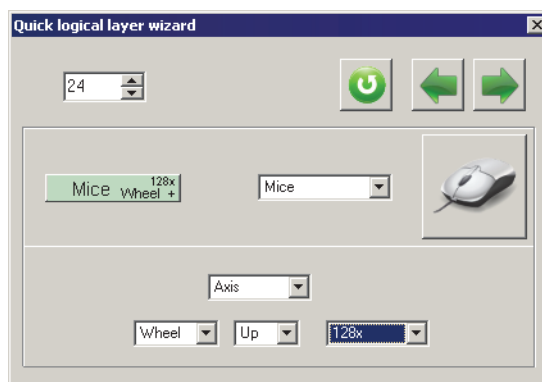

Fig. 5.10.
**Axis** item (Fig. 5.10) allows to control mouse axis using button. You can choose mouse axis – **X** or **Y**, or mouse **Wheel**. Assign direction – **Up** or **Down** and velocity multiplier. If multiplier is equal to zero, cursor autoacceleration will be used.